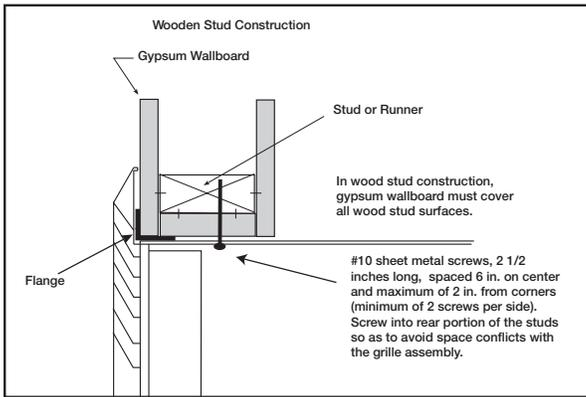
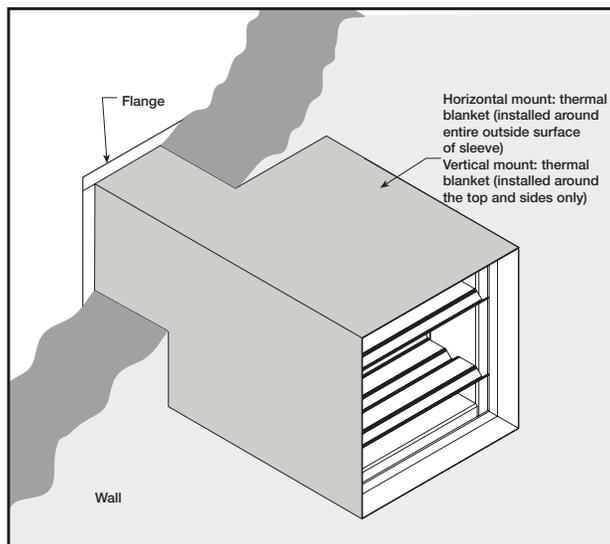

Figure 3 - Wood Stud
Figure 8: Sleeved Damper with Thermal Blanket (duct termination)
- Prepare opening between studs and sleeve assembly as shown below (see Figure 3 & 4).
Flange on front (grille end) of sleeve must be a minimum of 16 ga. (1.5 mm) steel and have $\frac{5}{8}$ in. (16 mm) minimum flange leg (refer to **Figure 8**). Using #10 (19 mm) sheet metal screws, screw from inside of sleeve through the rear portion of the studs (as shown in **Figures 3 & 4**). Space screws a maximum of 6 in. (152 mm) O.C. and a maximum of 2 in. (51 mm) from the corners (minimum of 2 screws per side). No retaining angles are required on the side of the wall opposite from the grille.